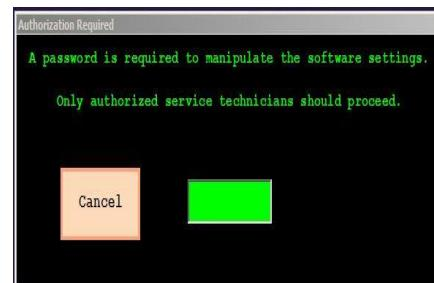

Figure 21: Authorization Box
2. Authorization Required box prompts for a password “adc4me” Figure 21